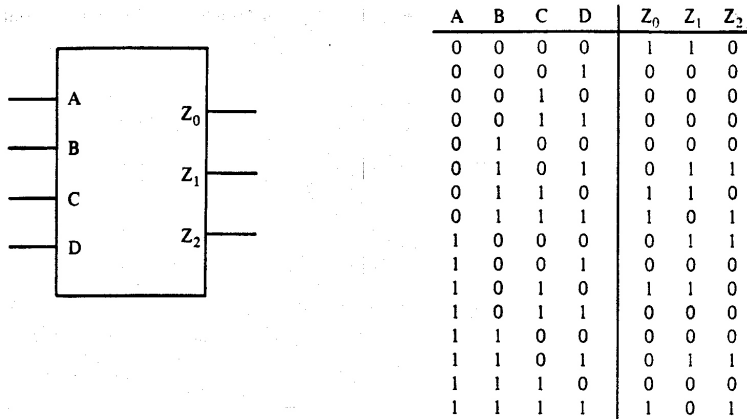

Figure 6.36 Block diagram and truth table for Problem 6.10.
6.10. Given the truth table of Fig. 6.36 for the combinational circuit shown in block diagram form, realize the combinational circuit with a PLA that is similar to the one shown in Fig. 6.10(b) (i.e., one with four inputs, four outputs, and supporting eight product terms).